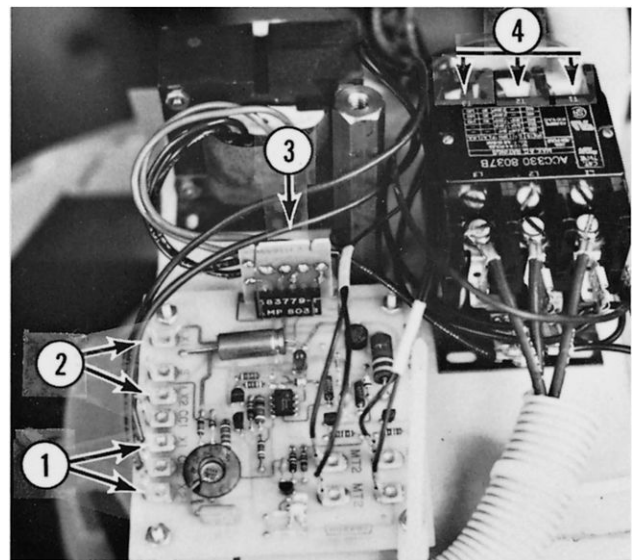

Fig. 16-2
(1) BOTH OUTPUT VOLTAGE READINGS (120V AC X1 and X2, 20V AC LX1 and LX2) ARE INCORRECT.
(2) 120V AC (between X1 and X2) IS NOT CORRECT. 20V AC (between LX1 and LX2) IS CORRECT.
(3) 20V AC (between LX1 and LX2) IS NOT CORRECT. 120V AC (between X1 and X2) IS CORRECT.
a. Disconnect the power cord, unplug the power input board (3, Fig. 16-2) and check the fuse (3FU) on the power input board with an ohmmeter.